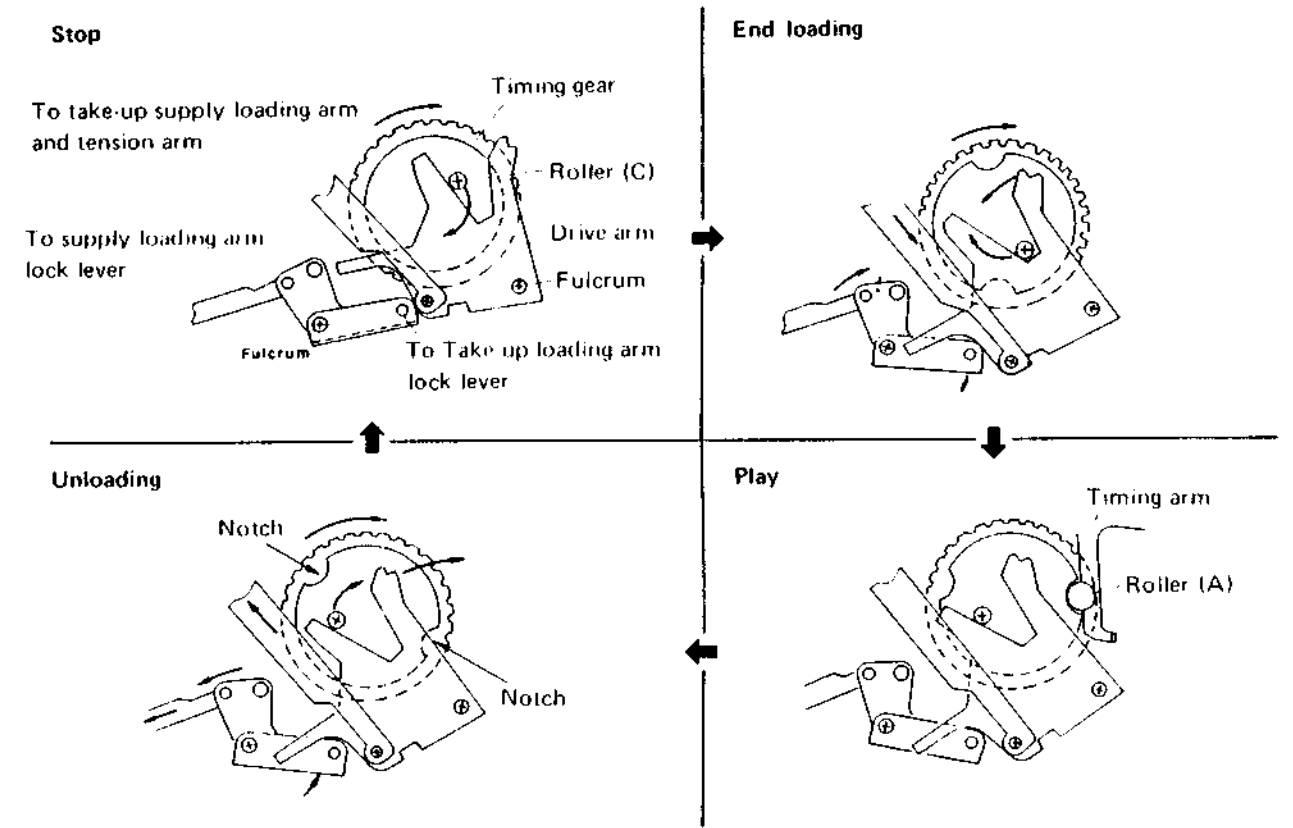
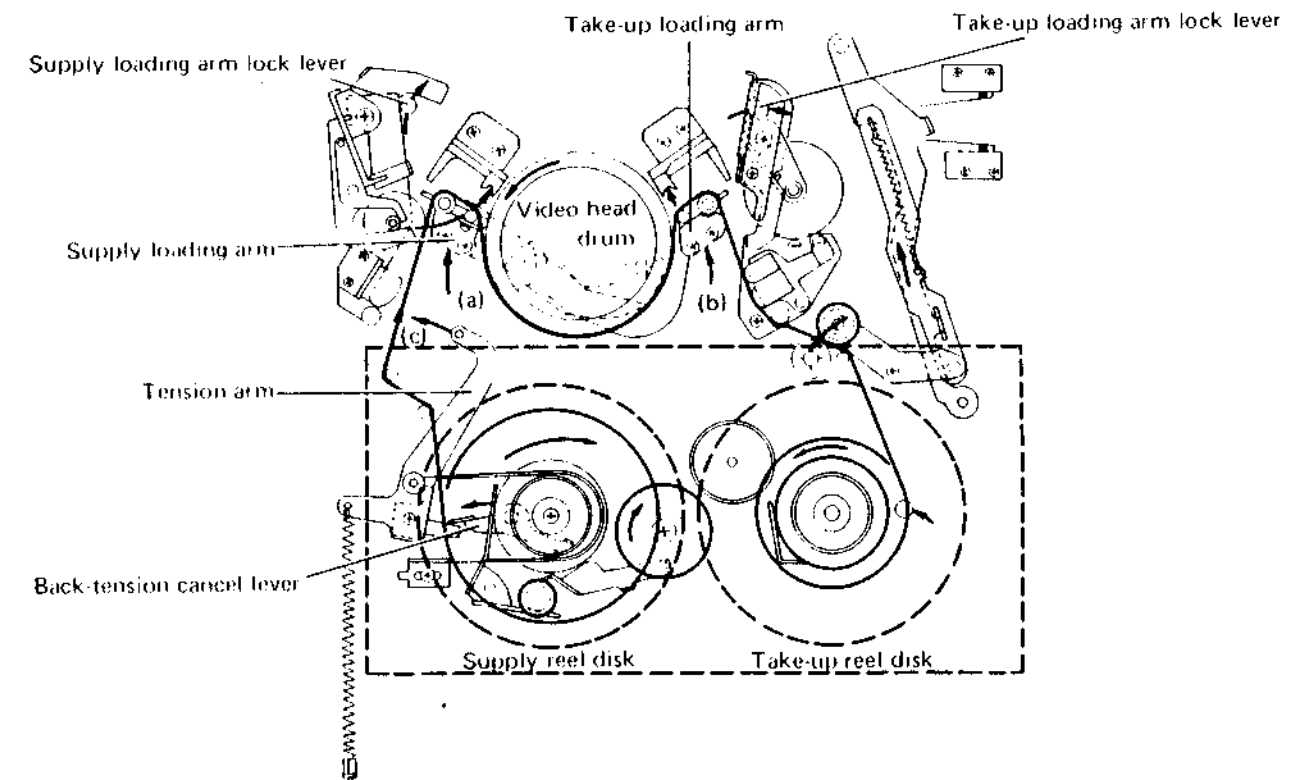

Fig. 2-10 Loading and Unloading
Fig. 2-11 Loading-2 mechanism (Top view)
On the other hand, by the rotation of the roller (C), as shown in Fig. 2-10, namely the counterclockwise movement of the drive arm, the arm drive plate connected with the drive arm moves to arrow (d) and also the slide lever is pulled toward to arrow (d). Accordingly, the rotary lever starts clockwise rotation (e). By the clockwise rotation of the rotary lever, the take-up loading arm lever moves to arrow (f) and the take-up loading arm shafts rotation clockwise to pull the video tape from
As shown in Fig. 2-10, the rotary lever rotates clockwise (e) by the movement of the drive arm. As a result, the supply loading arm and the take-up loading arm are moved to arrows (a), (b) as shown in Fig. 2-11. Also, the tension arm is made free by the movement of the tension cam on the bottom side, and the tension arm rotates counterclockwise (c) by the force of the spring until the tension arm contacts with the backtension cancel lever. At this time, the backtension is not furnished to the supply reel disk. As the result, video tape is pulled from the cassette by the supply and take-up loading arm.